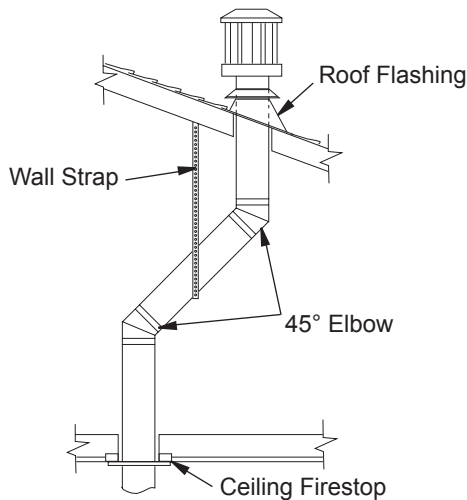

Figure 19 - Offset with Wall Strap and 45° Elbows
- Determine the route your vertical venting will take. If ceiling joists, roof rafters or other framing will obstruct the venting system, consider an offset (see Figure 19) to avoid cutting load bearing members. **Note:** Pay special attention to these installation instructions for required clearances (air space) to combustibles when passing through ceilings, walls, roofs, enclosures, attic rafters, etc. Do not pack air spaces with insulation. Also note maximum vertical rise of the venting system and any maximum horizontal offset limitations.
Note: If an offset is needed to avoid obstructions, you must support the vent pipe every 3 feet. Use wall straps for this purpose (see Figure 19). Whenever possible, use 45° elbows instead of 90° elbows. The 45° elbow offers less restriction to the flow of the flue gases and intake air.
- Place the flashing over the pipe section(s) extending through the roof. Secure the base of the flashing to the roof and framing with roofing nails. Be sure roofing material overlaps the top edge of the flashing as shown in Figure 19. There must be a 1" clearance from the vent pipe to combustible materials.